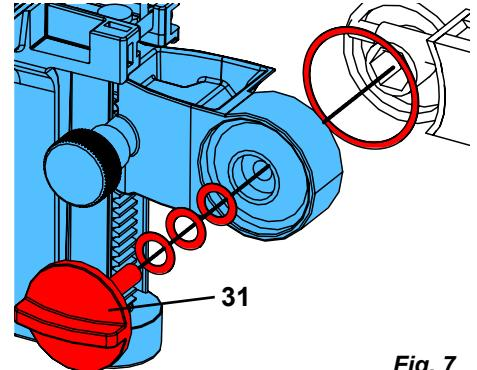

Fig. 7
- Four washers are needed for mounting the head (see Fig. 7). Three small washers (gold/black/gold) have already been threaded onto the fastening screw (31) in the correct sequence. The large washer is attached to the head with an adhesive strip with a red end.
- ⇒ Loosen the fastening screw (31) on the support arm.